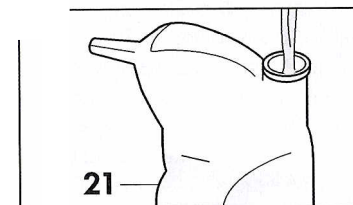
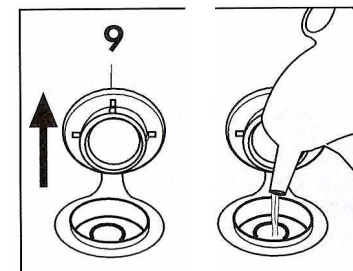

Fig. 6
Fig. 7
Fill the bottle (21) with demineralised or tap water { Fig. 6}. Open the water fill cap (9) by hand; turn the bottle upside down with the top over the boiler hole and empty the contents of the bottle into the boiler. When the tank is full, close the cap (9) (Fig. 7)